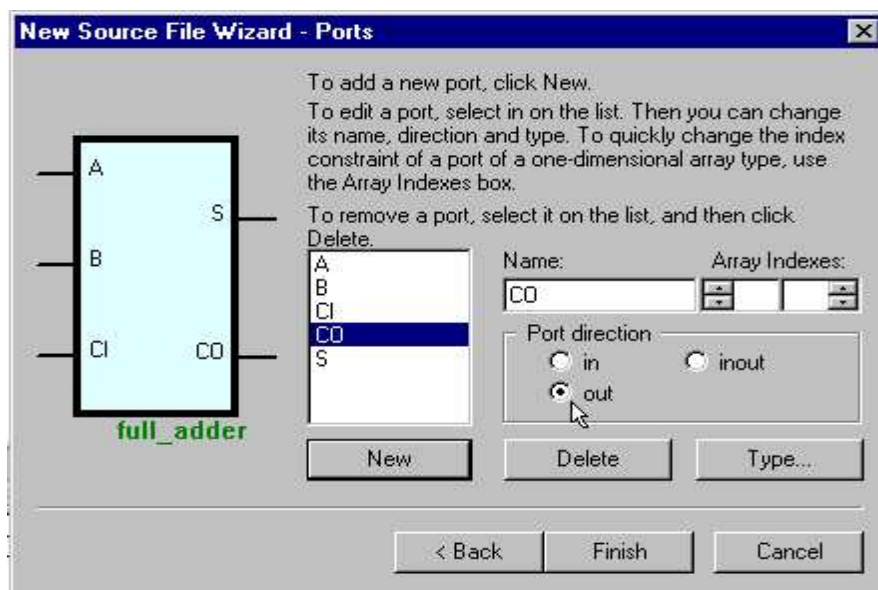

Figure 12
7. To add ports, click the “New” button (see Figure 12). Choose whether you want an input or output port by clicking the desired radio button located under the “Port Direction” heading.
9. We will only be using 1-bit ports, so ignore the “Array Indexes” fields for now. Your screen should look like Figure 12. If so, then click the Finish button.